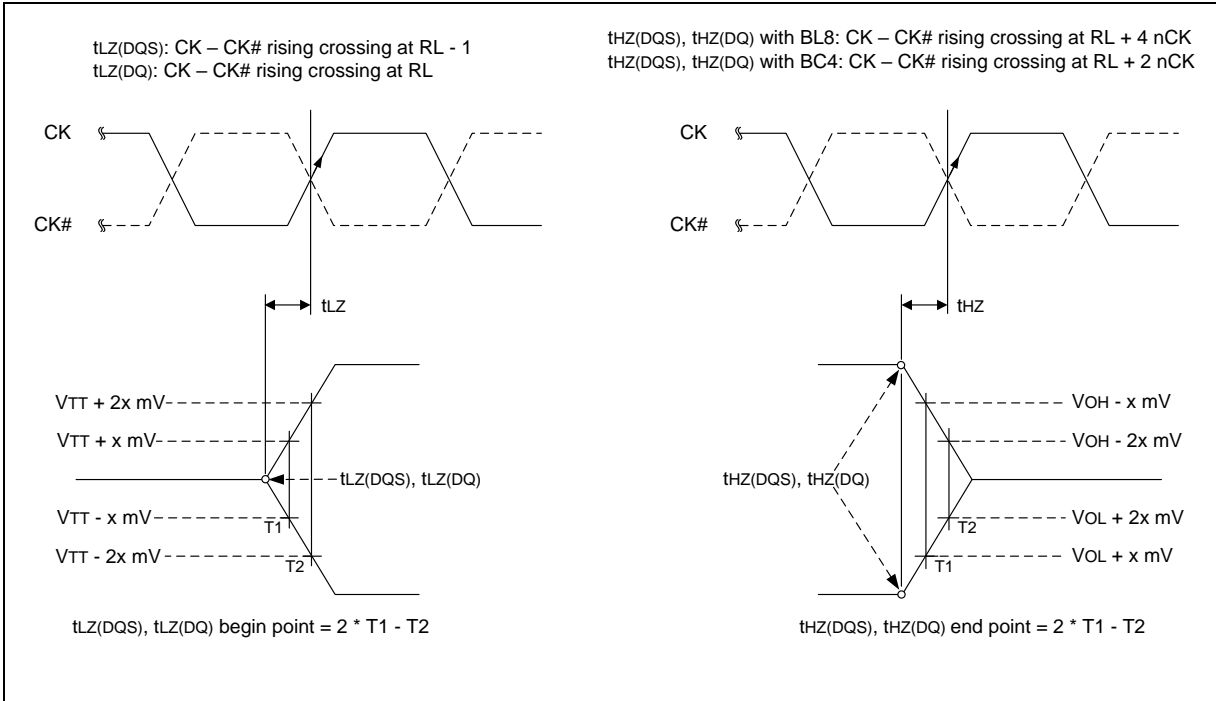

Figure 26 – tLZ and tHZ method for calculating transitions and endpoints
$t_{LZ}(DQS)$, $t_{HZ}(DQS)$ for preamble/postamble (see section 8.13.2.3 and Figure 26).
8.13.2.3 tLZ(DQS), tLZ(DQ), tHZ(DQS), tHZ(DQ) Calculation
thz and tlz transitions occur in the same time window as valid data transitions. These parameters are referenced to a specific voltage level that specifies when the device output is no longer driving thz(dqs) and thz(dq), or begins driving tlz(dqs), tlz(dq). Figure 26 shows a method to calculate the point when the device is no longer driving thz(dqs) and thz(dq), or begins driving tlz(dqs), tlz(dq), by measuring the signal at two different voltages. The actual voltage measurement points are not critical as long as the calculation is consistent. The parameters tLZ(DQS), tLZ(DQ), tHZ(DQS), and tHZ(DQ) are defined as singled ended.